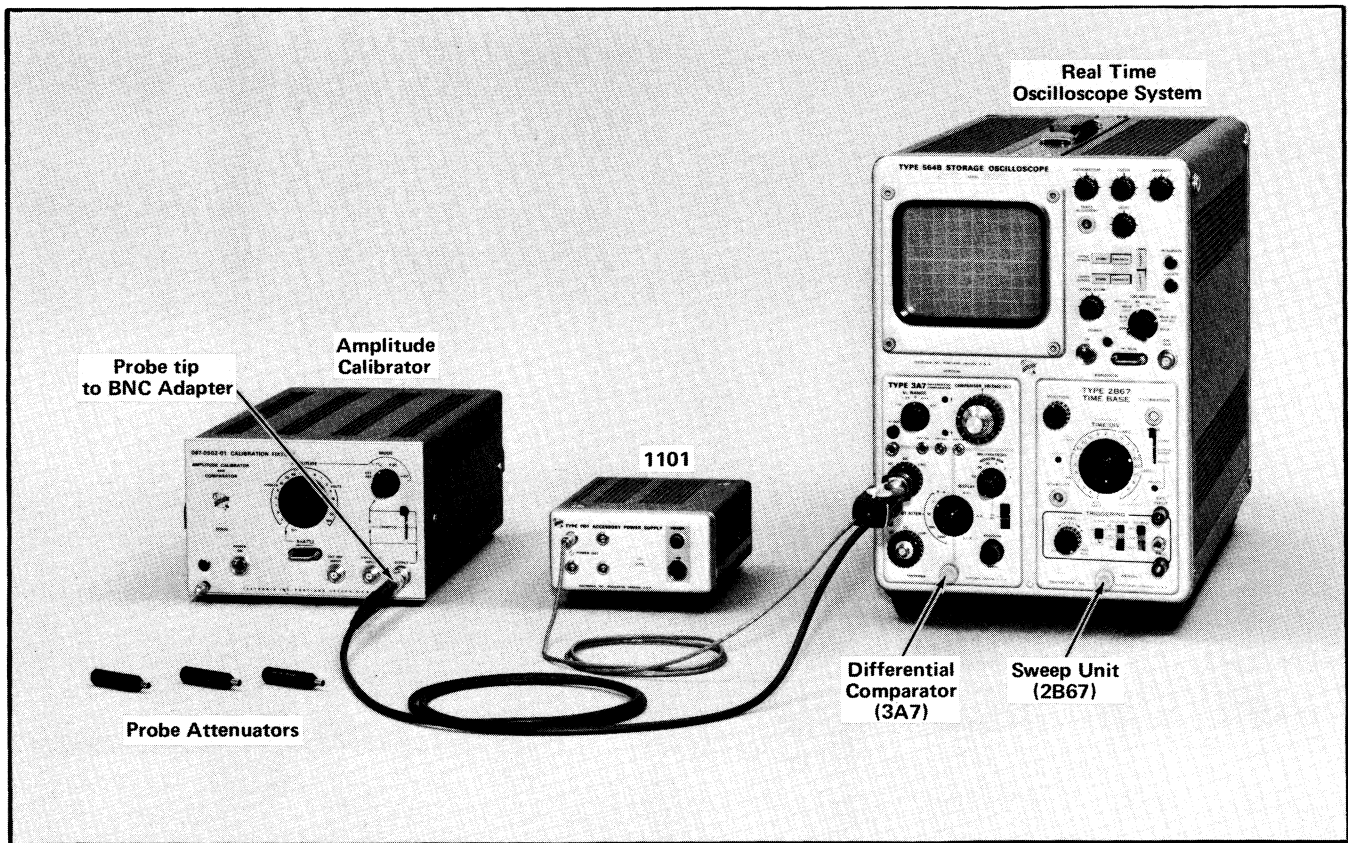

Fig. 5-8. Equipment setup to check attenuation accuracy, probe signal range and DC offset range (step 10 through 12).
- a. The equipment setup is shown in Fig. 5-8.
a. Equipment setup is shown in Fig. 5-8.
a. Equipment setup is shown in Fig. 5-8 and given in steps 10 and 11.